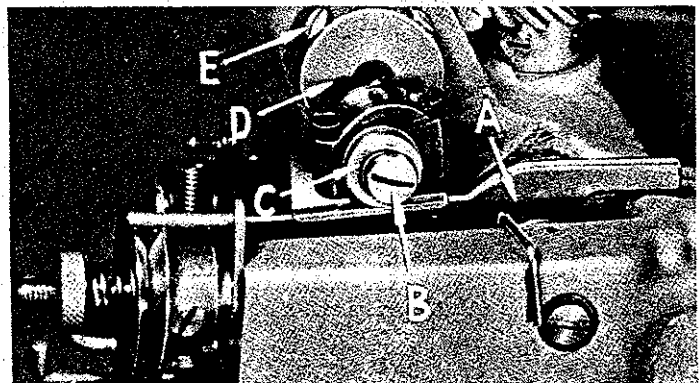

Fig. 18
The automatic thread tension lever (A, Fig. 18) should now begin to part the tension discs. This adjustment is made by manually depressing the lever (A) until its projection begins to part the discs, loosening screw (B), and moving the eccentric sleeve (C) to maintain the lever (A) in the desired position. This is an approximate setting only, and may have to be changed slightly to compensate for varying thicknesses of thread.
It may be necessary to increase or decrease the size of the needle thread loop for various sizes of thread. This adjustment is made by advancing needle drive crank (D, Fig. 18) slightly for larger loop, retarding slightly for smaller loop.